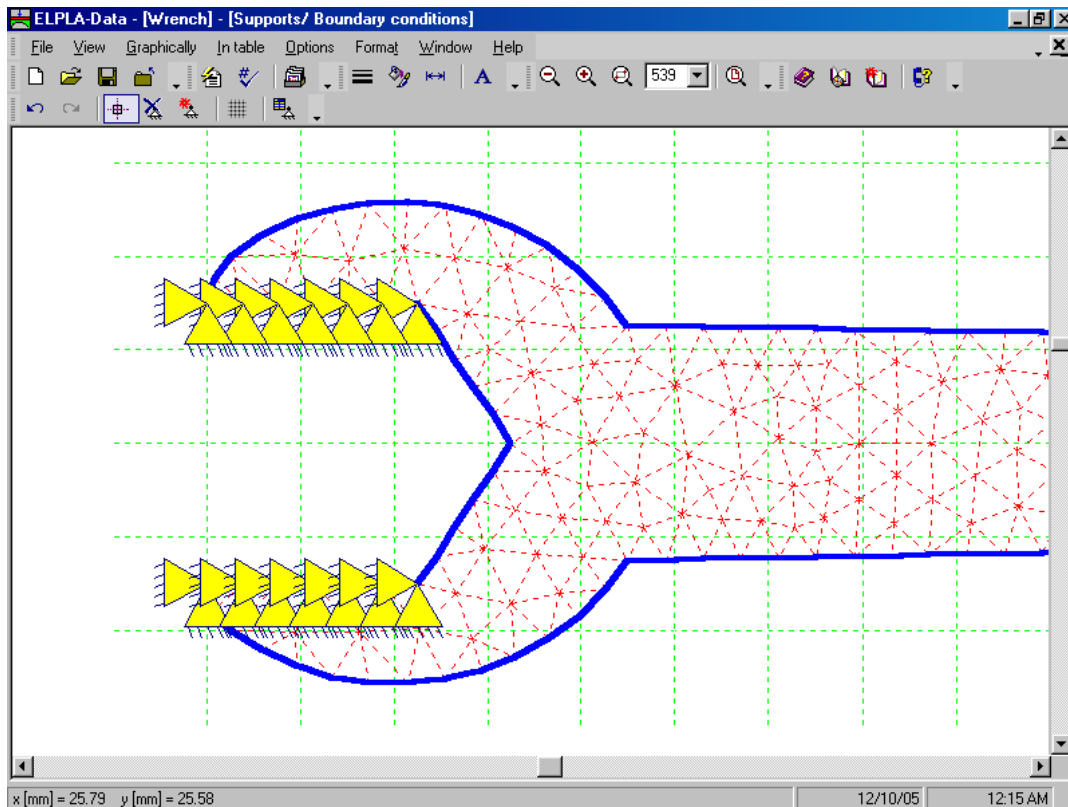

Figure 5-22 Supports on the screen
After you have completed the definition of supports, the screen should look like the following Figure 5-22.
- Choose "Save supports/ Boundary conditions" command from "File" menu in Figure 5-22 to save the data of supports
- Choose "Close supports/ Boundary conditions" command from "File" menu in Figure 5-22 to close the "Supports/ Boundary conditions" embedded program and to return to the main window of *ELPLA-Data*